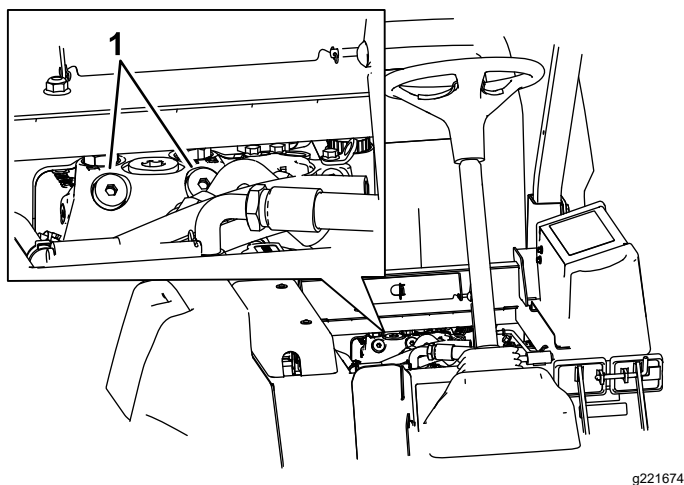

Figure 40
1. Raise the seat and locate the bypass valves, which are located below the front of the fuel tank (Figure 40).